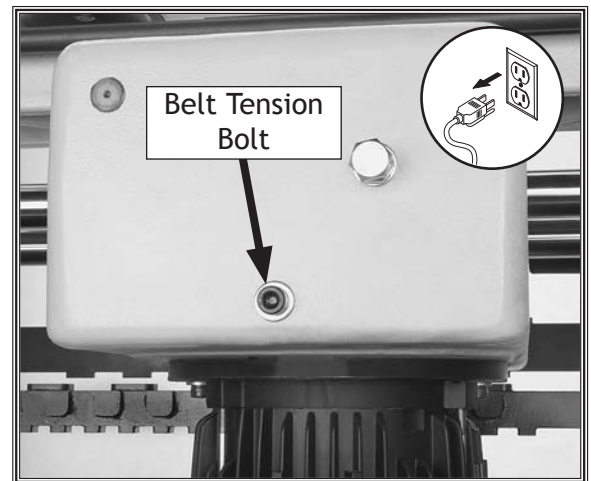

Figure 49. Belt tension bolt.
3. Turn the belt tension bolt, shown in **Figure 49**, clockwise to tension the belt.
5. Turn the motor tension bolt, shown in **Figure 49**, counterclockwise to loosen the belt.